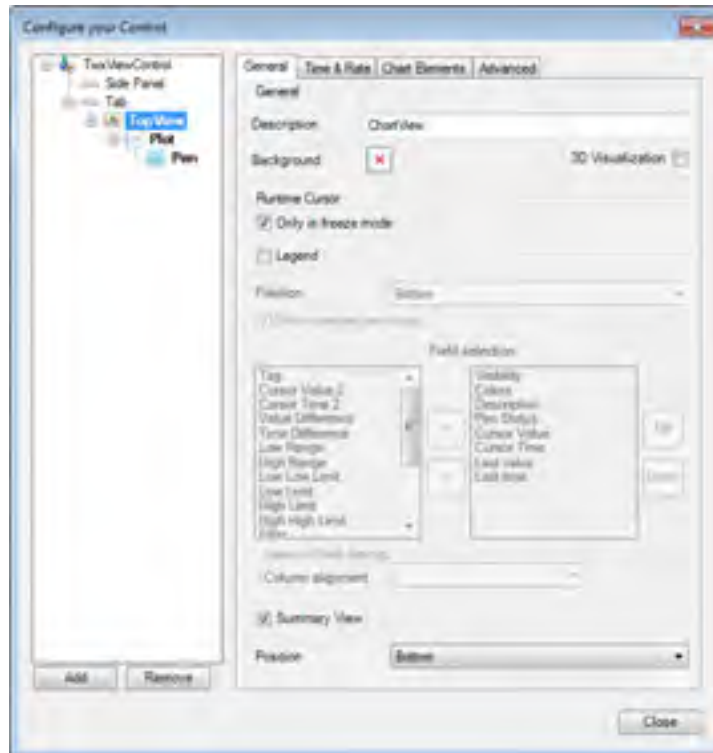

Figure L1.5 - TrendWorX64 Viewer Configuration Dialog
4. To configure the trend, in the TrendWorX64 Viewer Configuration ribbon that appears click the Configure button. A configuration dialog box opens, like the one shown in Figure L1.5.